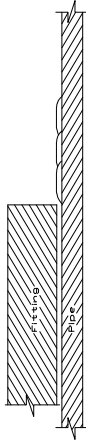
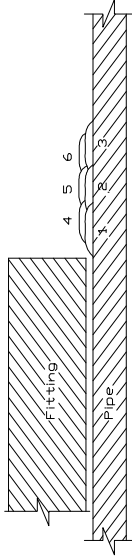

Figure 3 Detail of buttering layer onto pipe
Figure 4 Suggest method of reducing gap between pipe and fitting before welding to fillet throat
- Buttering technique shall be used on the run pipe wall as shown in the passes 1 – 3 of Figure 3. Additional reinforcement shall be applied over the buttering layer where the gap between the fitting and run pipe exceeds 1.5 mm, as shown in passes 4-6 of Figure 4.